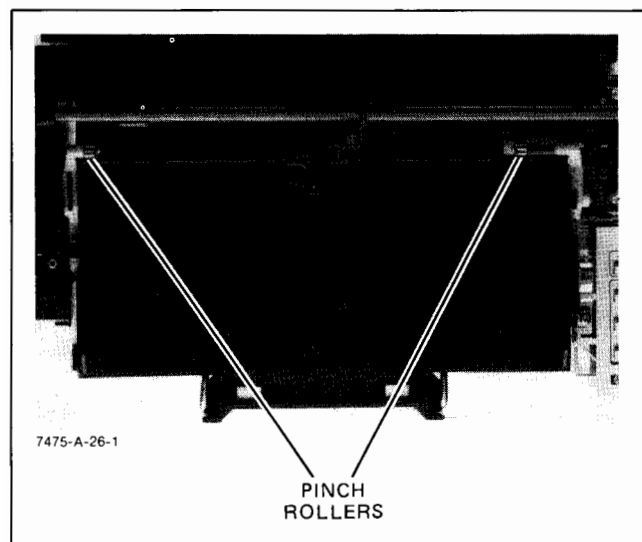

Figure 6-17. Pinch Rollers
- b. Remove the retaining ring that secures the pinch roller. See Figure 6-17.